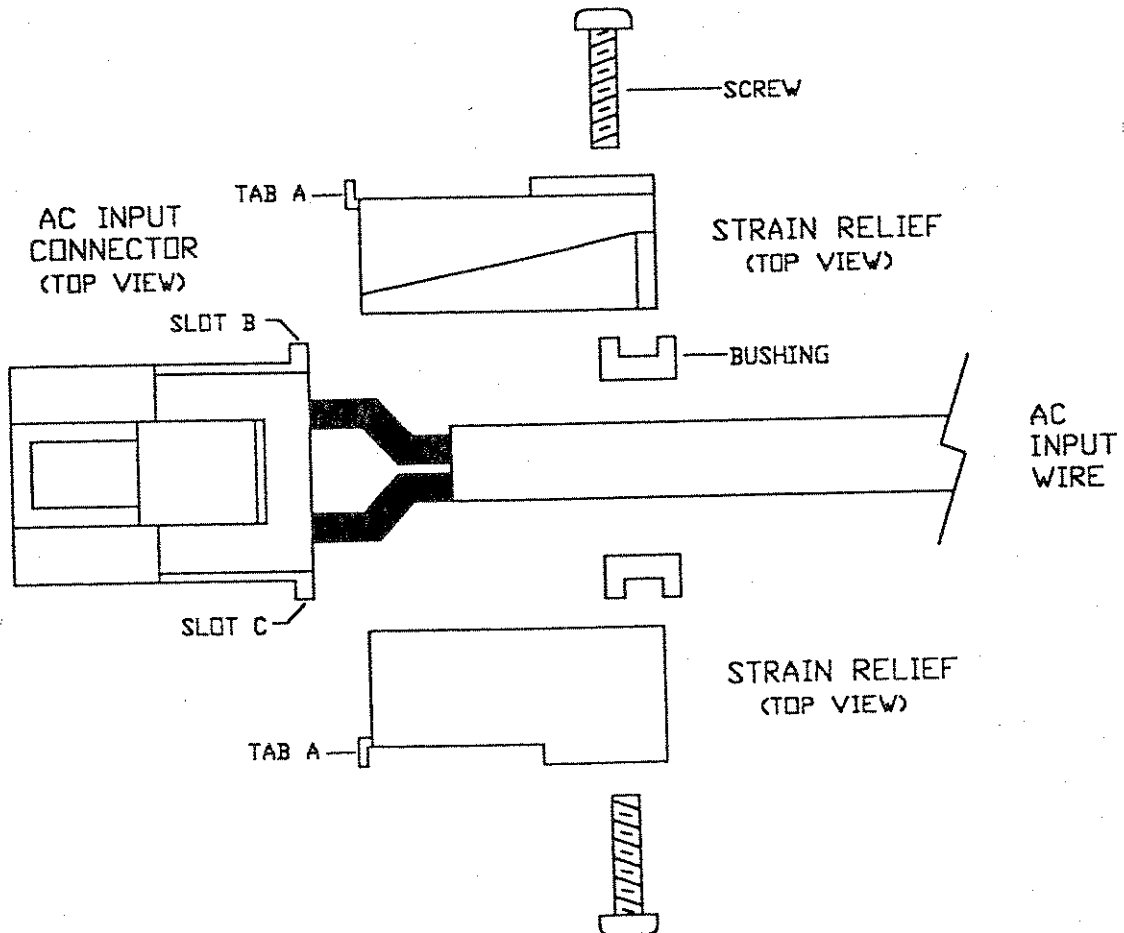

Figure 2.5-6 Strain Relief Assembly
3. Insert strain relief tab A into AC input connector slot B. Insert second strain relief tab A into AC input connector slot C. See Figure 2.5-6.